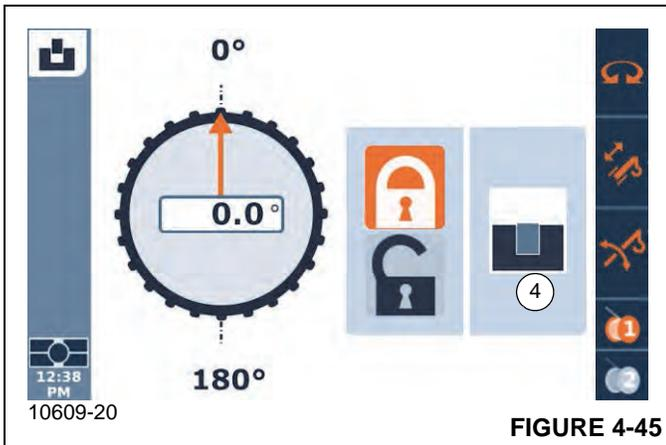

FIGURE 4-45
In Figure 4-45, the Swing Lock Status Indicator (4) shows the swing lock is in the locked position.
When the lock is engaged, the Locked Status Indicator (4, Figure 4-45) will appear.